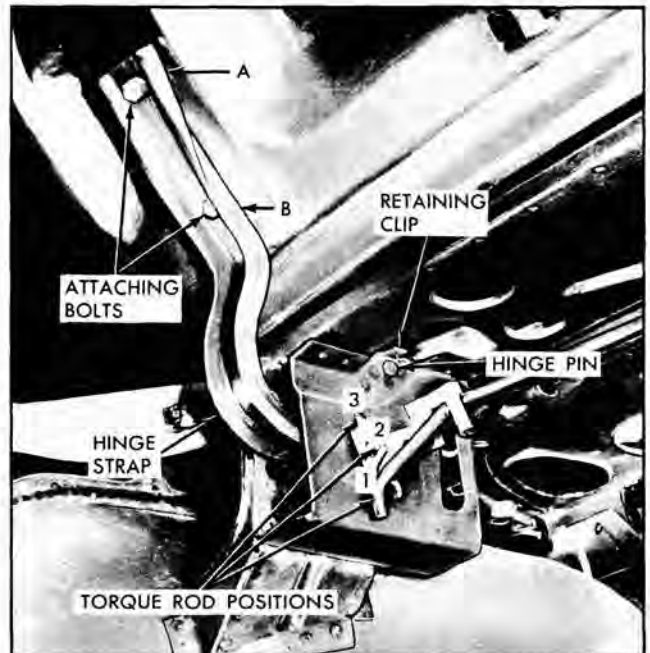

Fig. 5-7 Trunk Hinge and Torque Rod
4. With aid of helper, remove lid attaching bolts (Fig. 5-7) and remove rear compartment lid.
- a. To raise front edge of lid at hinge area, place shim between lid inner panel and forward portion of one or both hinge straps at "B" (Fig. 5-7).
- b. To lower front edge of lid at hinge area, place shim between lid inner panel and rearward portion of one or both hinge straps at "A" (Fig. 5-7).
4. With a suitable tool disengage torque rod from notched retainer on inboard face of opposite hinge box (Fig. 5-7).
6. Bend up hinge pin retaining tab on inboard face of hinge box (Fig. 5-7), remove hinge pin and then remove hinge from box.
The amount of effort required to open and close the rear compartment lid is determined by the position of the torque rod in the notches on the inboard face of the hinge boxes. If the torque rod is located in the lowest most forward notch (position #1), the amount of effort required to open the lid is the greatest and the amount of effort required to close the lid is the least. If the torque rod is located in the top or most rearward notch (position #3), the amount of effort to open the lid is the least and the amount of effort to close the lid is the greatest. See (Fig. 5-7).
1. Open rear compartment. Remove slotted metal retainer securing lock cylinder to rear end panel (Fig. 5-7) and remove lock cylinder.